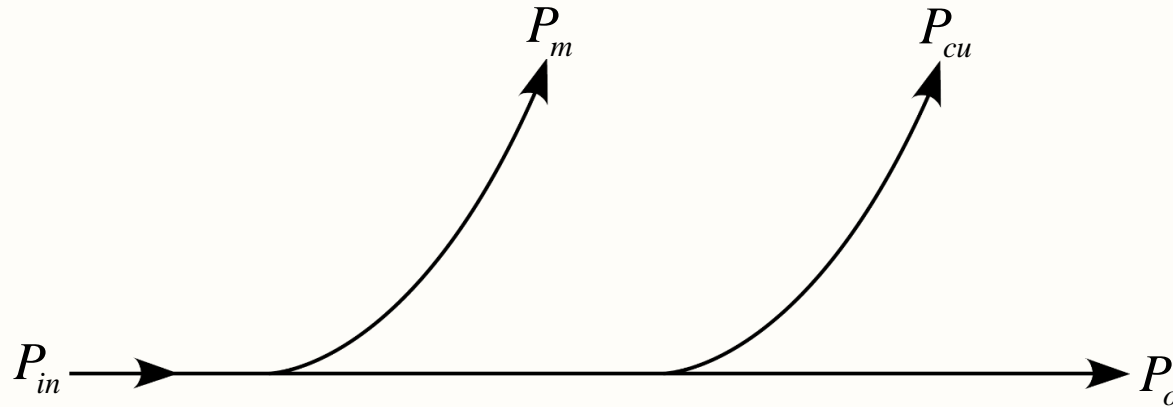

Fig. 33. Power flow diagram of a transformer.
- ❖ The power flow diagram of a transformer is shown in Fig. 33, and the input power can be expressed as  $P_{in} = P_o + P_{cu} + P_m$ .